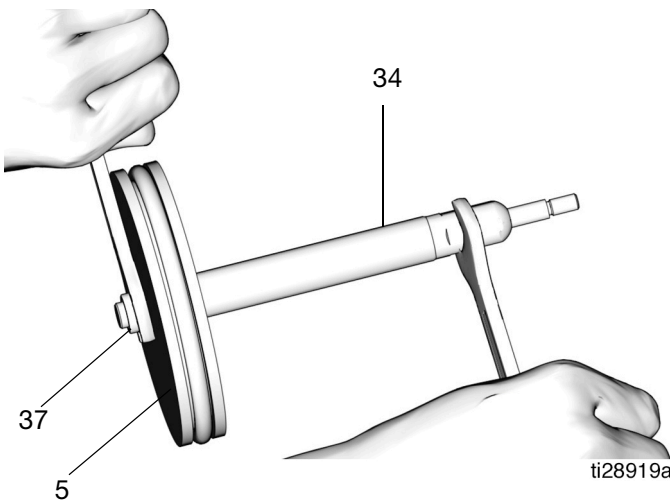

FIG. 22
22. Separate the piston rod (34) and the piston (5) using two wrenches, working in opposite directions. Secure one wrench to flats of piston rod and the second wrench to loosen the nut (37) (FIG. 22).